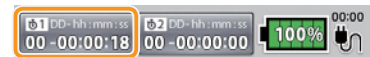

Figure 2-20
1. While the timer count is stopped, tap the count up timer indicator. (Figure 2-20)